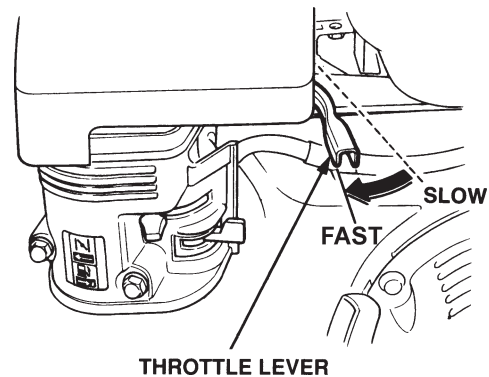

Figure 6. Throttle lever Lever
3. Move the throttle lever (Figure 6) away from the slow position, about 1/3 of the way toward the fast position.